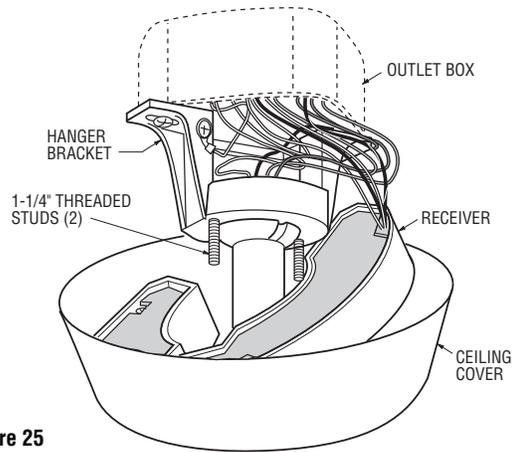

Figure 25
- 1. Screw the two 1-1/4" threaded studs (supplied) into the tapped holes in the hanger bracket (Figure 25).